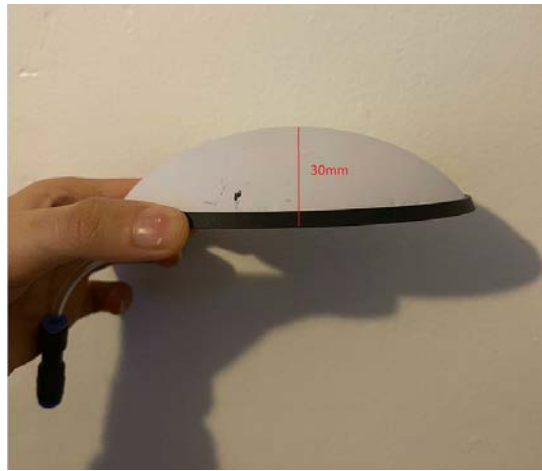

Figure 58: Inflated bubble module to max height, 30 mm
24. Inflate the bubble up to 30 mm (Fig 58) and remove the pump air line.